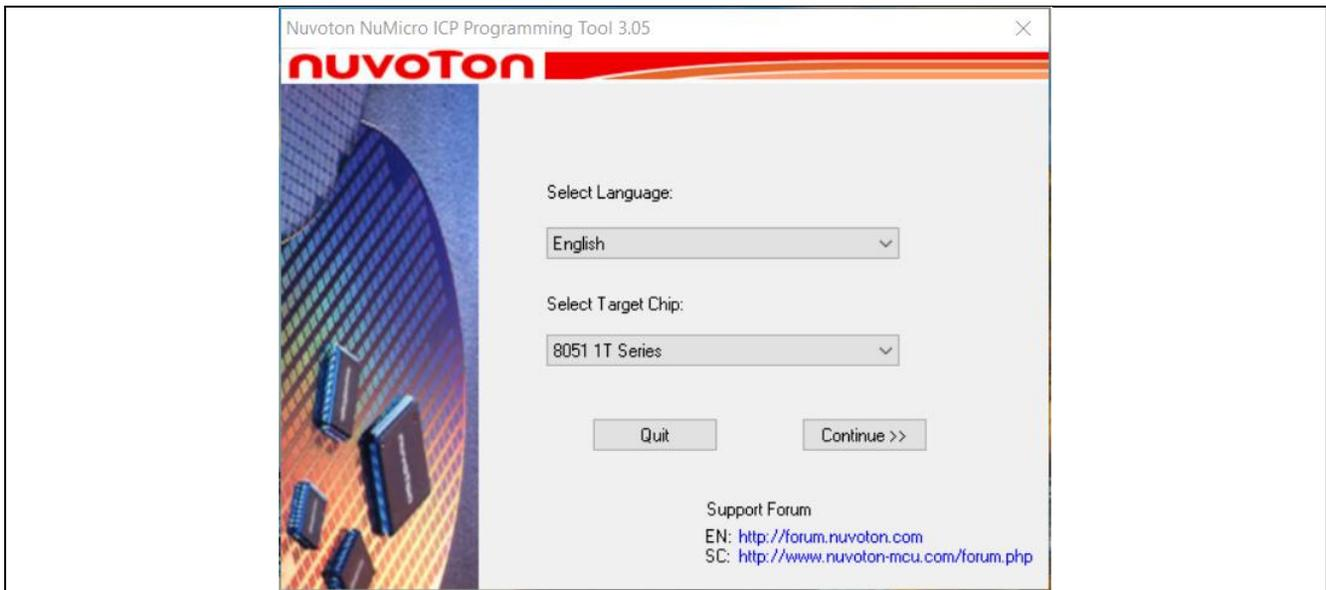

Figure 4-2 Startup Screen of ICP Tool
- (1) Download and install Nuvoton NuMicro® ICP Programming Tool.
- (2) Open the ICP Tool and select the **UI language** and **target chip**, and then click **Continue**, as shown in Figure 4-2.